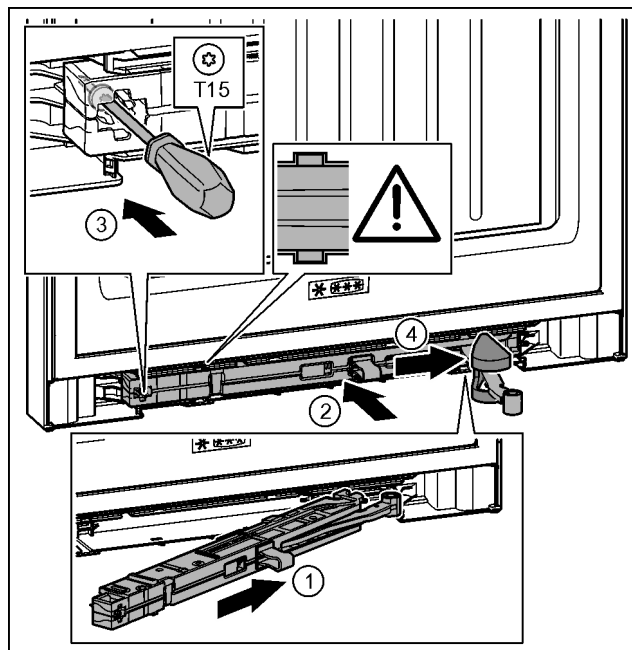

Fig. 39
- Slide the soft stop mechanism on the bearing bracket side at an angle into the slot as far as the limit stop. *Fig. 39 (1)*
- Slide the soft stop mechanism fully into the slot. *Fig. 39 (2)*
- Tighten the screw with the T15 screwdriver. *Fig. 39 (3)*
- Push the cover over the hinge. *Fig. 39 (4)*